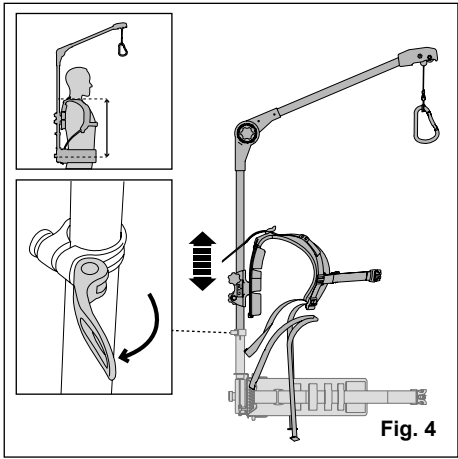

Fig. 4
- Loosen the clamp to adjust the space between your hips and shoulders (Fig 4).